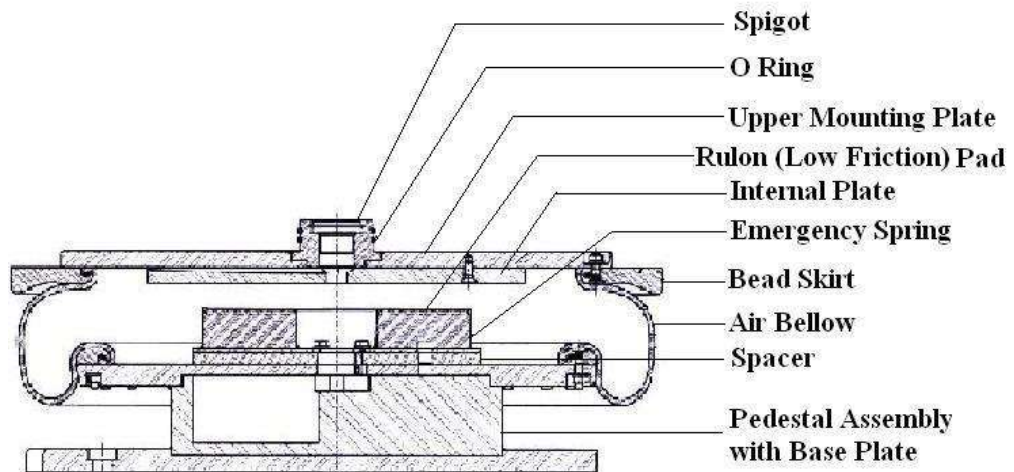
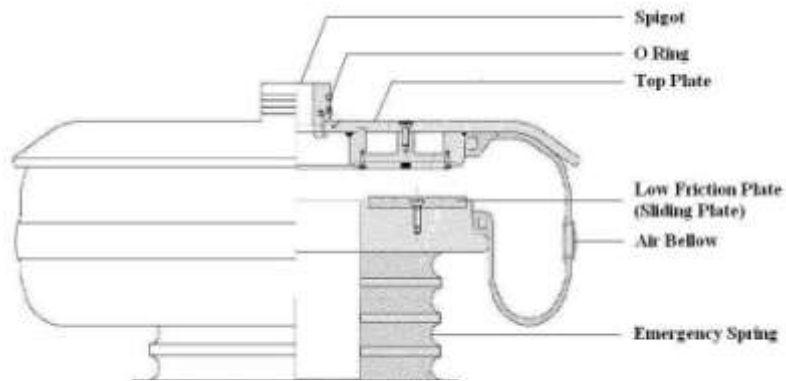

FIG. 4-3 Air Spring Assembly With Internal Emergency Spring
FIG. 4-4 Air Spring Assembly With External Emergency Spring
It is implemented by two spring packs (FIG. 4-4) which sustain the bolster beam (1) over the bogie frame (6). Each spring pack is made up by an internal (3) and an external spring (4), mounted and positioned through the centering discs (5).
Construction details of air spring are shown in Fig.4-3 (air spring with internal emergency spring), & Fig.4-4 (air spring with external emergency spring).